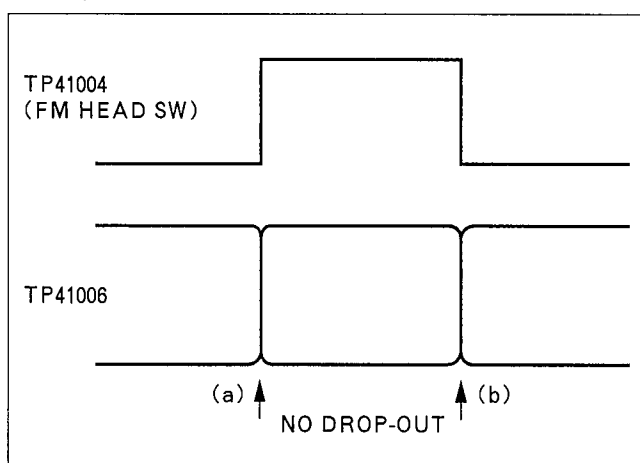

Figure E52
SPEC.	FIG. E52
- Adjust VR41004 so that disappear the drop-out at the (a) and (b) positions as shown in Figure E52.